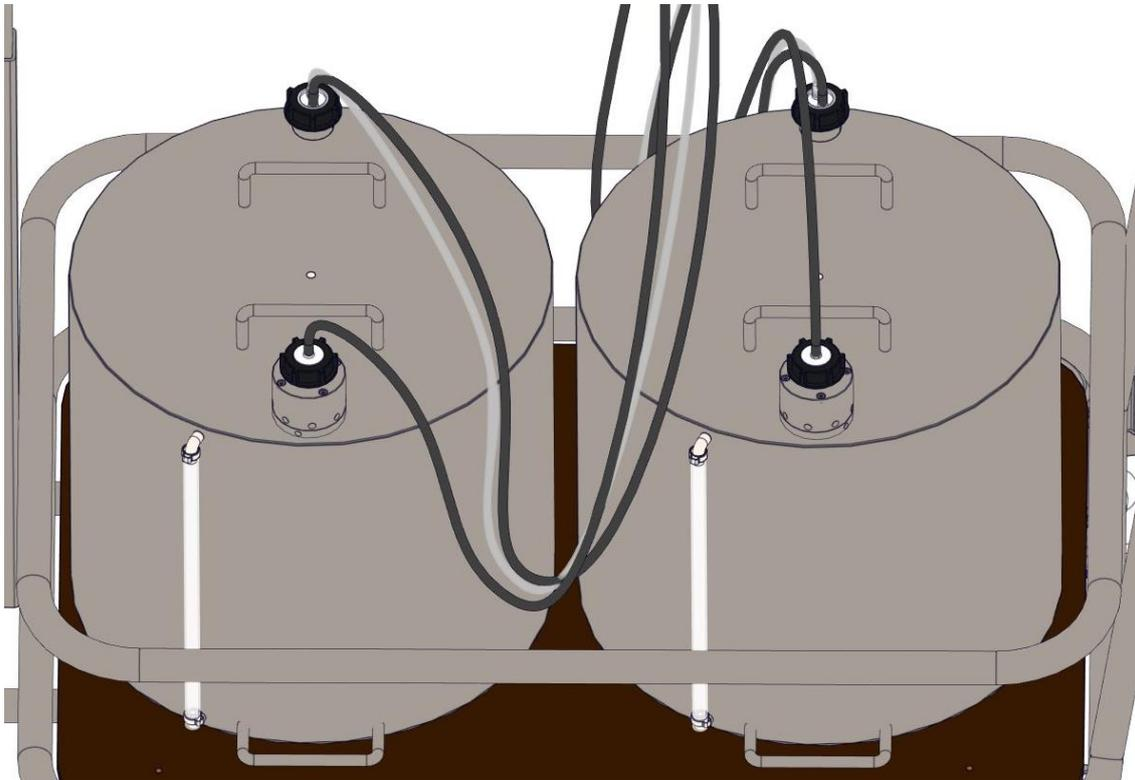
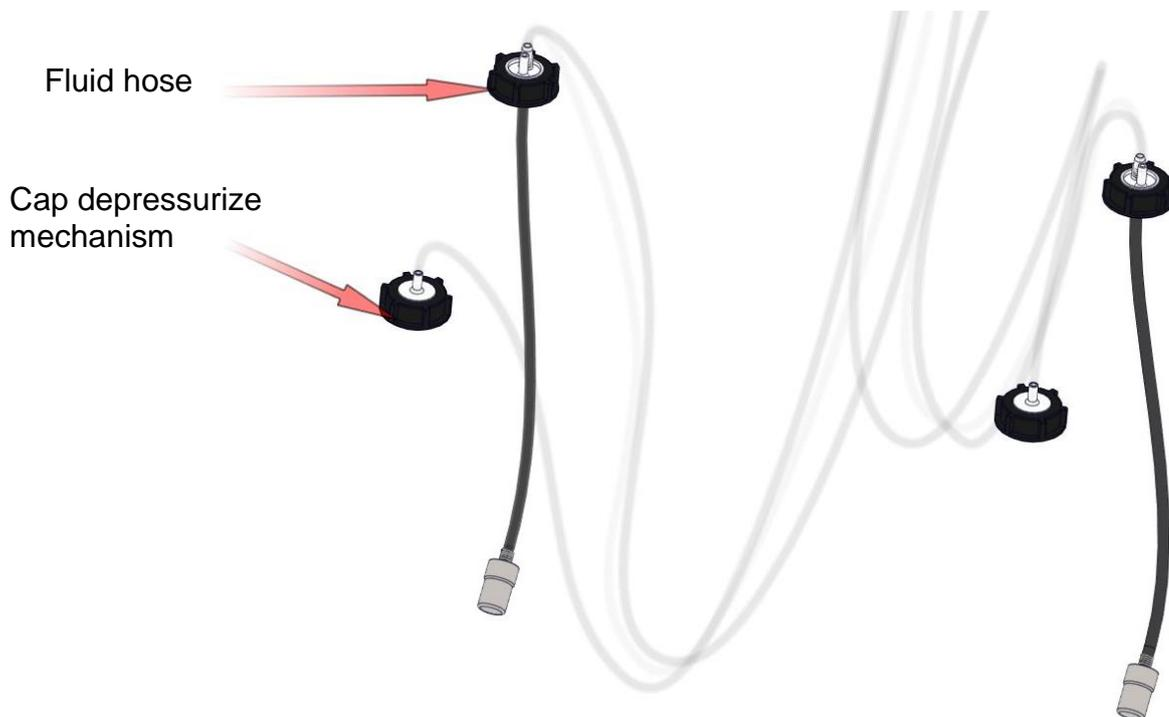

Figure 9
Figure 10
9. Connect the water and air hose to the fogging liquid tank, firmly close the cap to prevent any pressure loss (Figure 9 and Figure 10).
11. Connect the fogging liquid and air hose to the fogging liquid tank and firmly close the cap to prevent any pressure loss (Figure 9 and Figure 10).